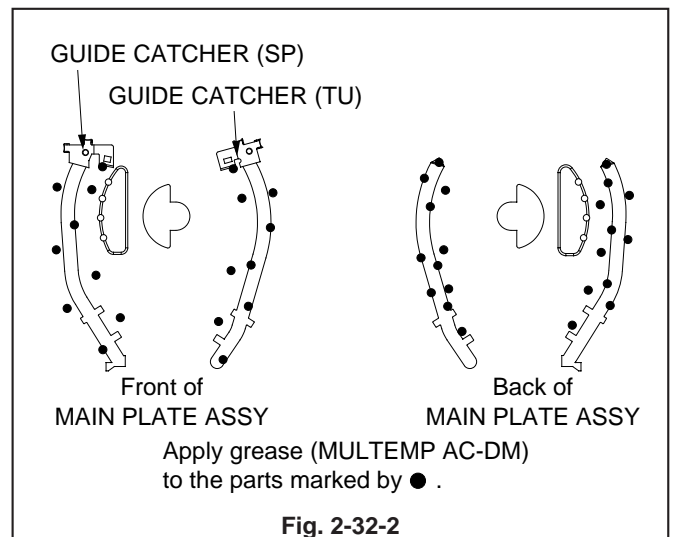

Fig. 2-32-2
1. Apply grease (MULTEMP AC-DM)[859D055O90] to the specified parts on the MAIN PLATE ASSY in Fig. 2-32-2.